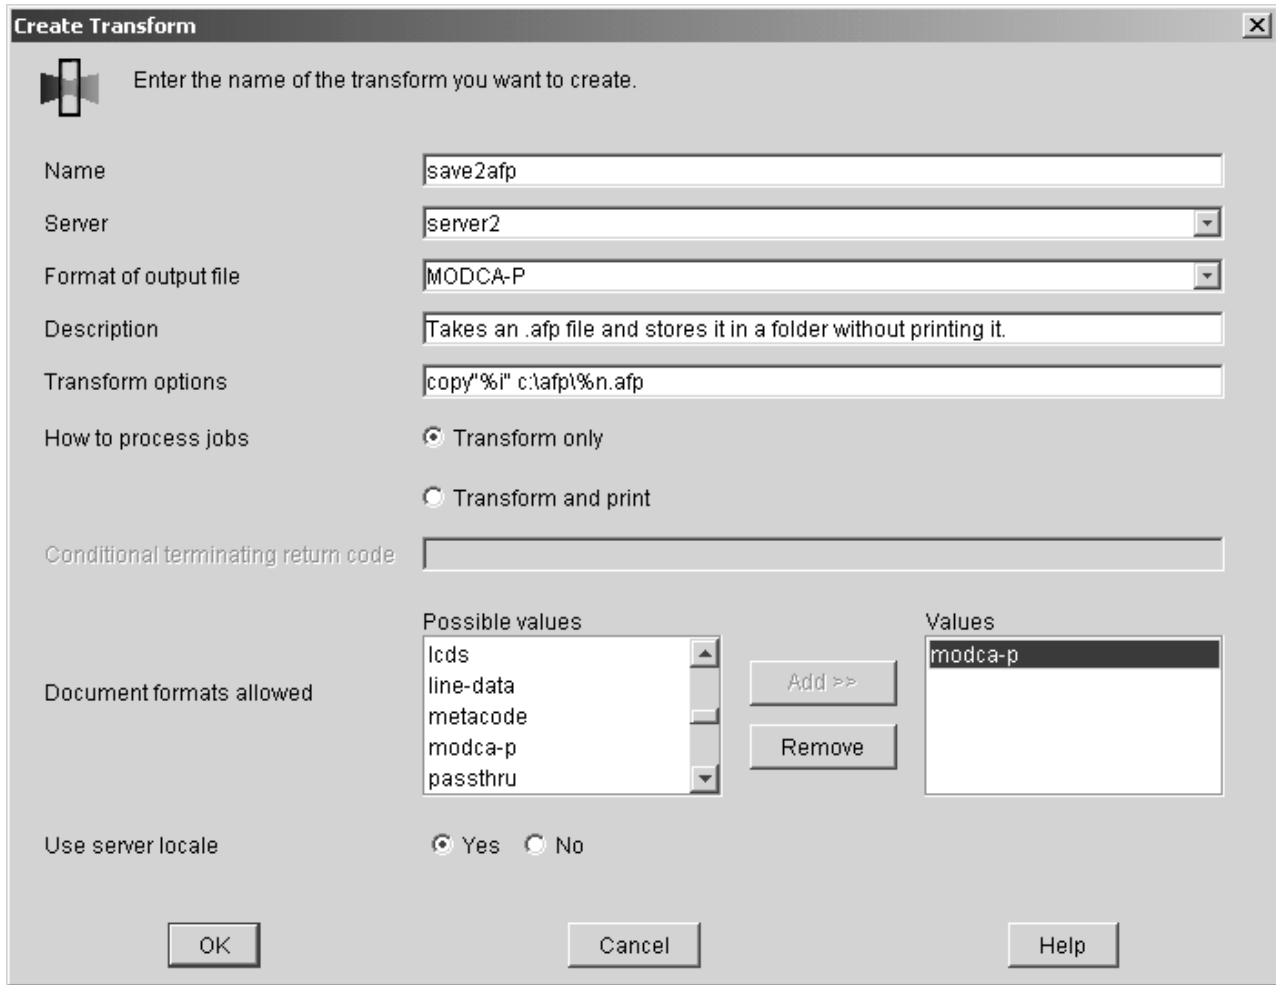
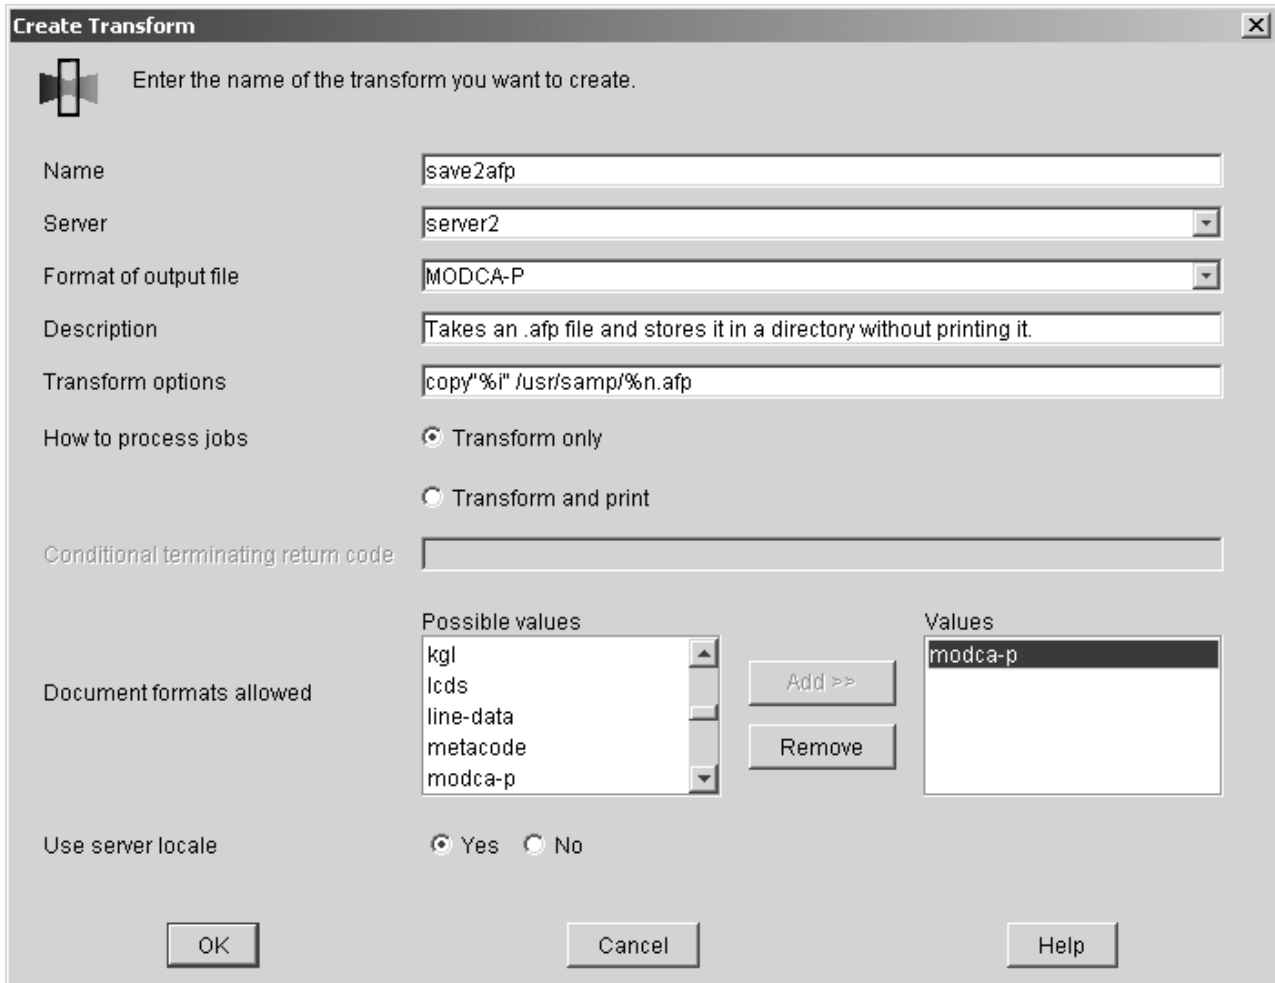

Figure 66. Create Transform dialog: Define a transform that copies an AFP file to a folder without printing on Windows
Figure 67. Create Transform dialog: Define a transform that copies an AFP file to a directory without printing on AIX
3. In the **Create Transform** dialog, fill in the fields as shown in either Figure 66 on page 251 or Figure 67 on page 252, depending upon your operating system. These values create a transform that copies AFP input data to an **\afp** folder on a specific drive on Windows or a **/usr/samp** file system on AIX. Also, it names the transformed file with the name of the original file name because of the **%n** substitution variable.